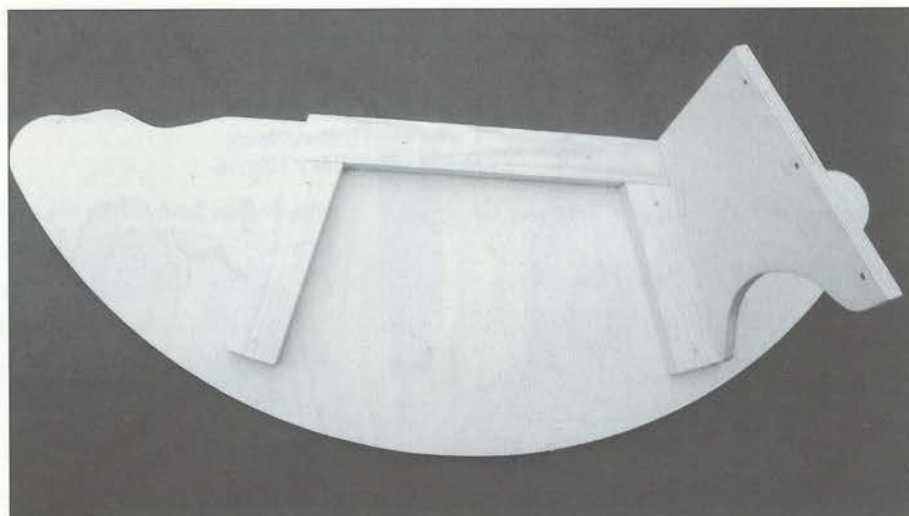

Fig 17.6 B and C are screwed to A. Part D is then screwed to C.
Saw the two rocker end pieces (D) to shape with a fret saw and drill the screw holes in each piece. These holes are not countersunk as they would be difficult to fill and sand when fitted. Screw cups are fitted underneath the heads of the screws instead. Fig 17.6 shows B and C glued and screwed in position and an end piece (D) temporarily screwed into place.